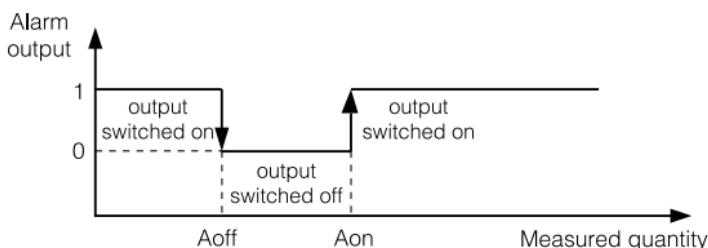

Fig. 14. Alarm types: a) n-on, b) n-off c) on d) off.
- b) kind of the alarm output operation – choose one from 10 modes n-on, n-off, on, off, h-on and h-off, A3non, A3nof, A3\_on, A3\_of. Working modes have been presented on the fig. 14,
Exemplary configuration of alarms 1-4 is presented on the fig. 14.